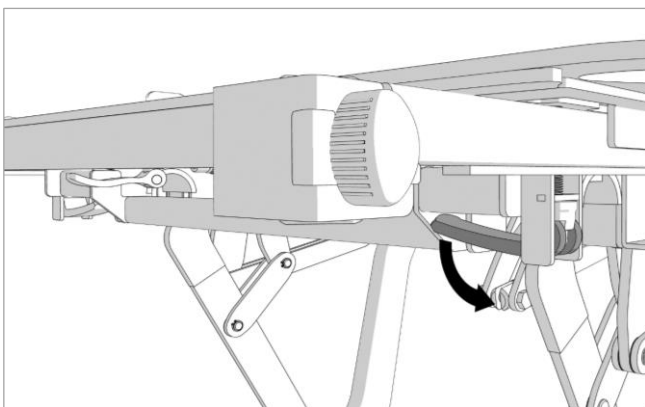
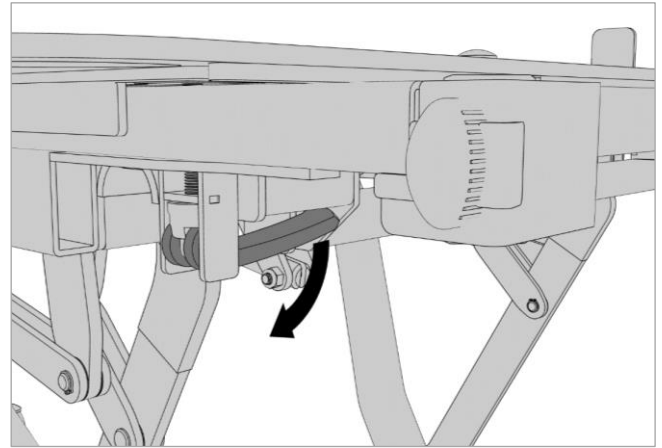
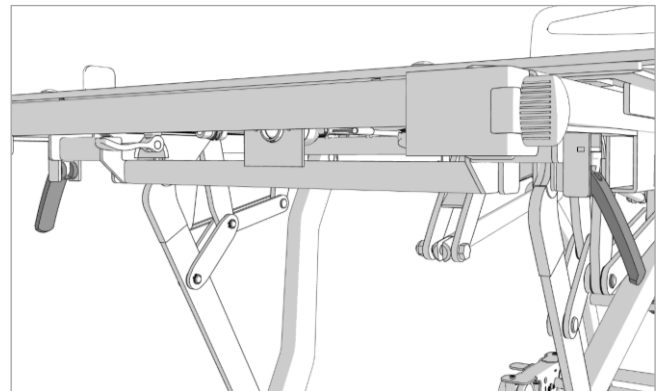

Figure 11.1
Figure 11.2
Figure 11.3
2. At the foot end of the bed locate the Footboard frame locking levers and rotate them towards the floor to unlock the Footboard frame as shown in Figure 11.1, Figure 11.2 and Figure 11.3.